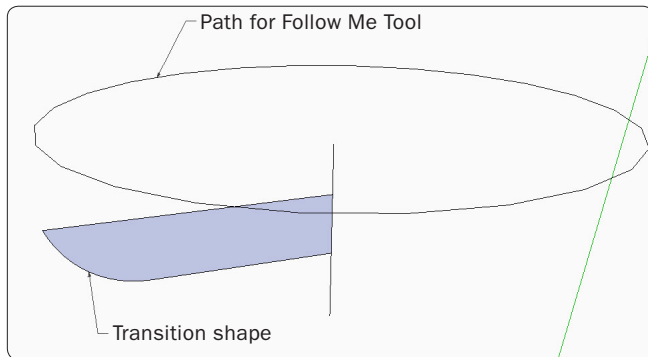
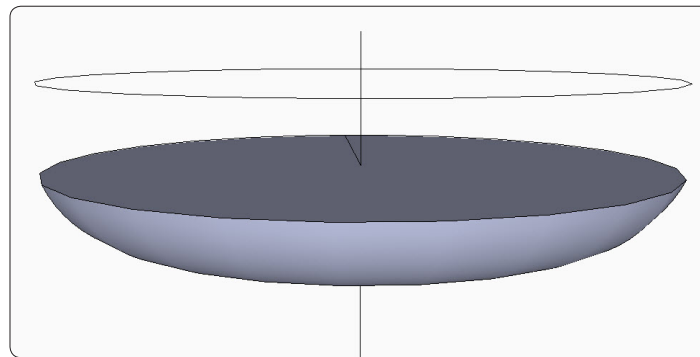

Figure 7. Move the transition shape away from the model and create a path for the Follow Me Tool.
Figure 8. The resulting shape is a transition cutter.
Step 5 Copy the transition shape and move it away from the leg. Add lines to extend the side that will become its center and draw a circular path for the Follow Me Tool (Figure 7). Executing the Follow Me command produces what I call the *transition cutter* shown in Figure 8.